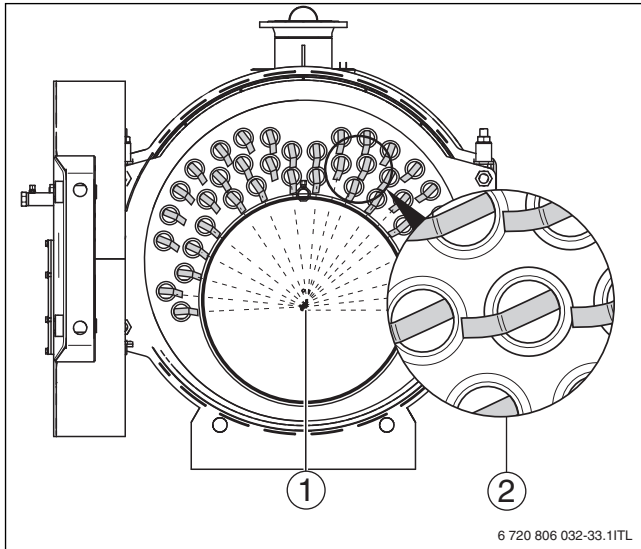

Fig. 33 Aligning the turbulators
- ▶ Align turbulators in such a way that all the ends (→ Fig. 33, [2]) point towards the middle of the combustion chamber.